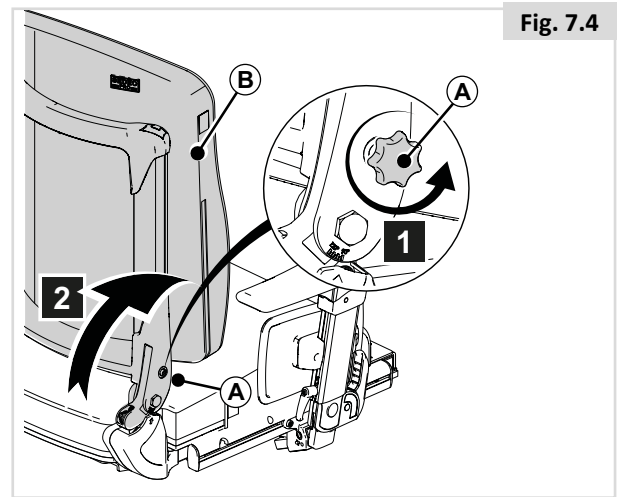

Fig. 7.4
7.3 Flip down backrest quick release (Fig 7.4)